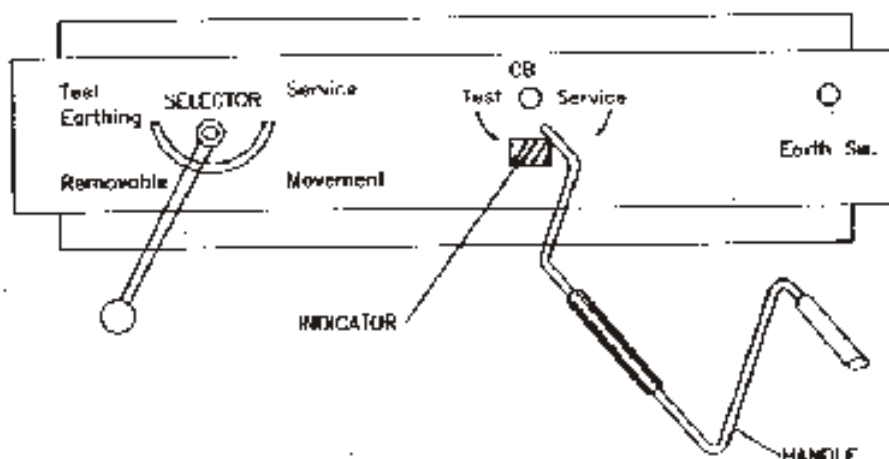

Fig 36
- a) To withdraw on door (Ref. fig. 36)